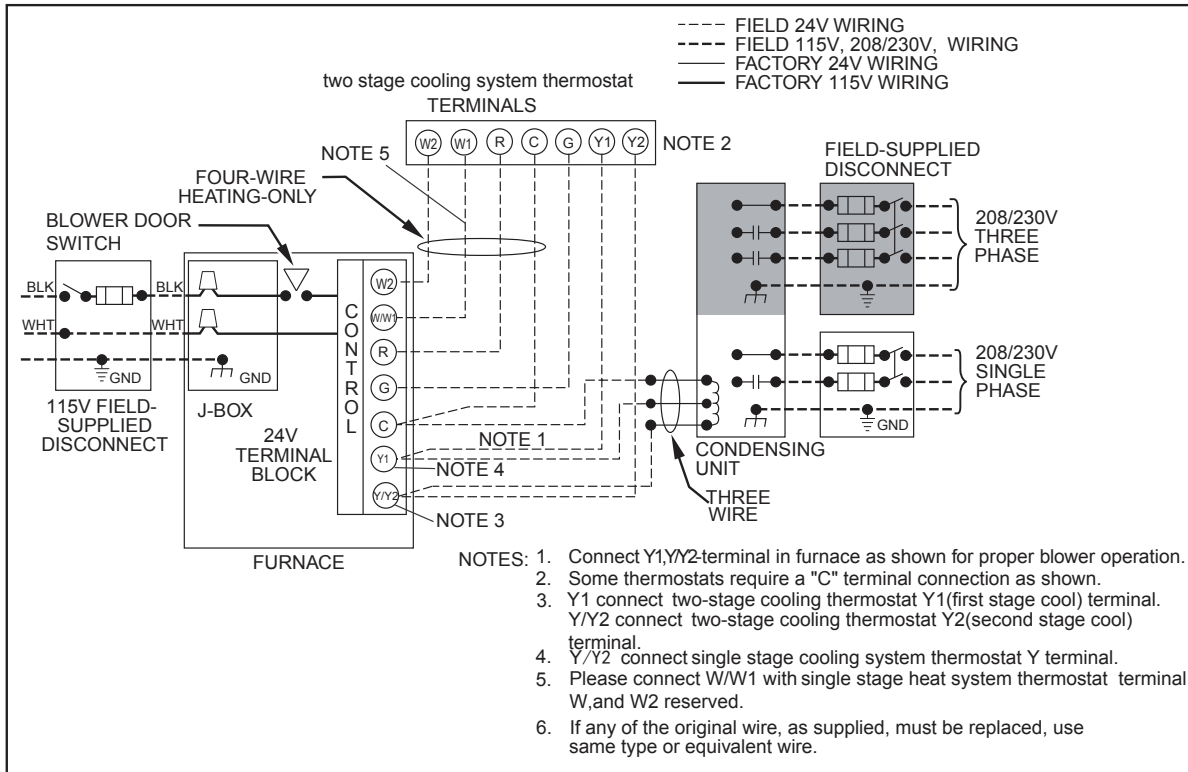

Fig.33 - Heating and Cooling Application Wiring Diagram with 2-Stage heatingThermostat
See Fig. 33 for field wiring diagram showing typical field 115V wiring. Check all factory and field electrical connections for tightness. Field-supplied wiring shall conform with the limitations of 63°F (35°C) rise.
5. Connect line voltage leads as shown in Fig. 33.
- Complete electrical box wiring and installation. Connect line voltage leads as shown in Fig. 33. Use best practices (NEC in U.S. and CSA C22.1 in Canada) for wire bushings, strain relief, etc.
- Connect line voltage leads as shown in Fig. 33.
1. Maintain 115V wiring and ground. Improper polarity will result in rapid flashing LED and no furnace operation. (See Fig. 33)
2. Make thermostat wire connections at the 24-V terminal block on the furnace control. Failure to make proper connections will result in improper operation. (See Fig. 33)